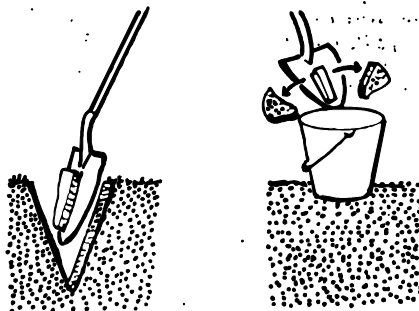

Figure 2. The correct procedures of using shovel to collect soil samples.
The use of a shovel is generally discouraged because of the extra steps involved to obtain a representative sample. If a shovel is used, dig a hole then take a slice of soil one-half inch thick and six inches deep. Keep the slice on the shovel. Cut a strip one-half inch wide from the center of the slice, top to bottom, and put it in the container (Figure 2). Repeat this 20 times as explained in (3) below.